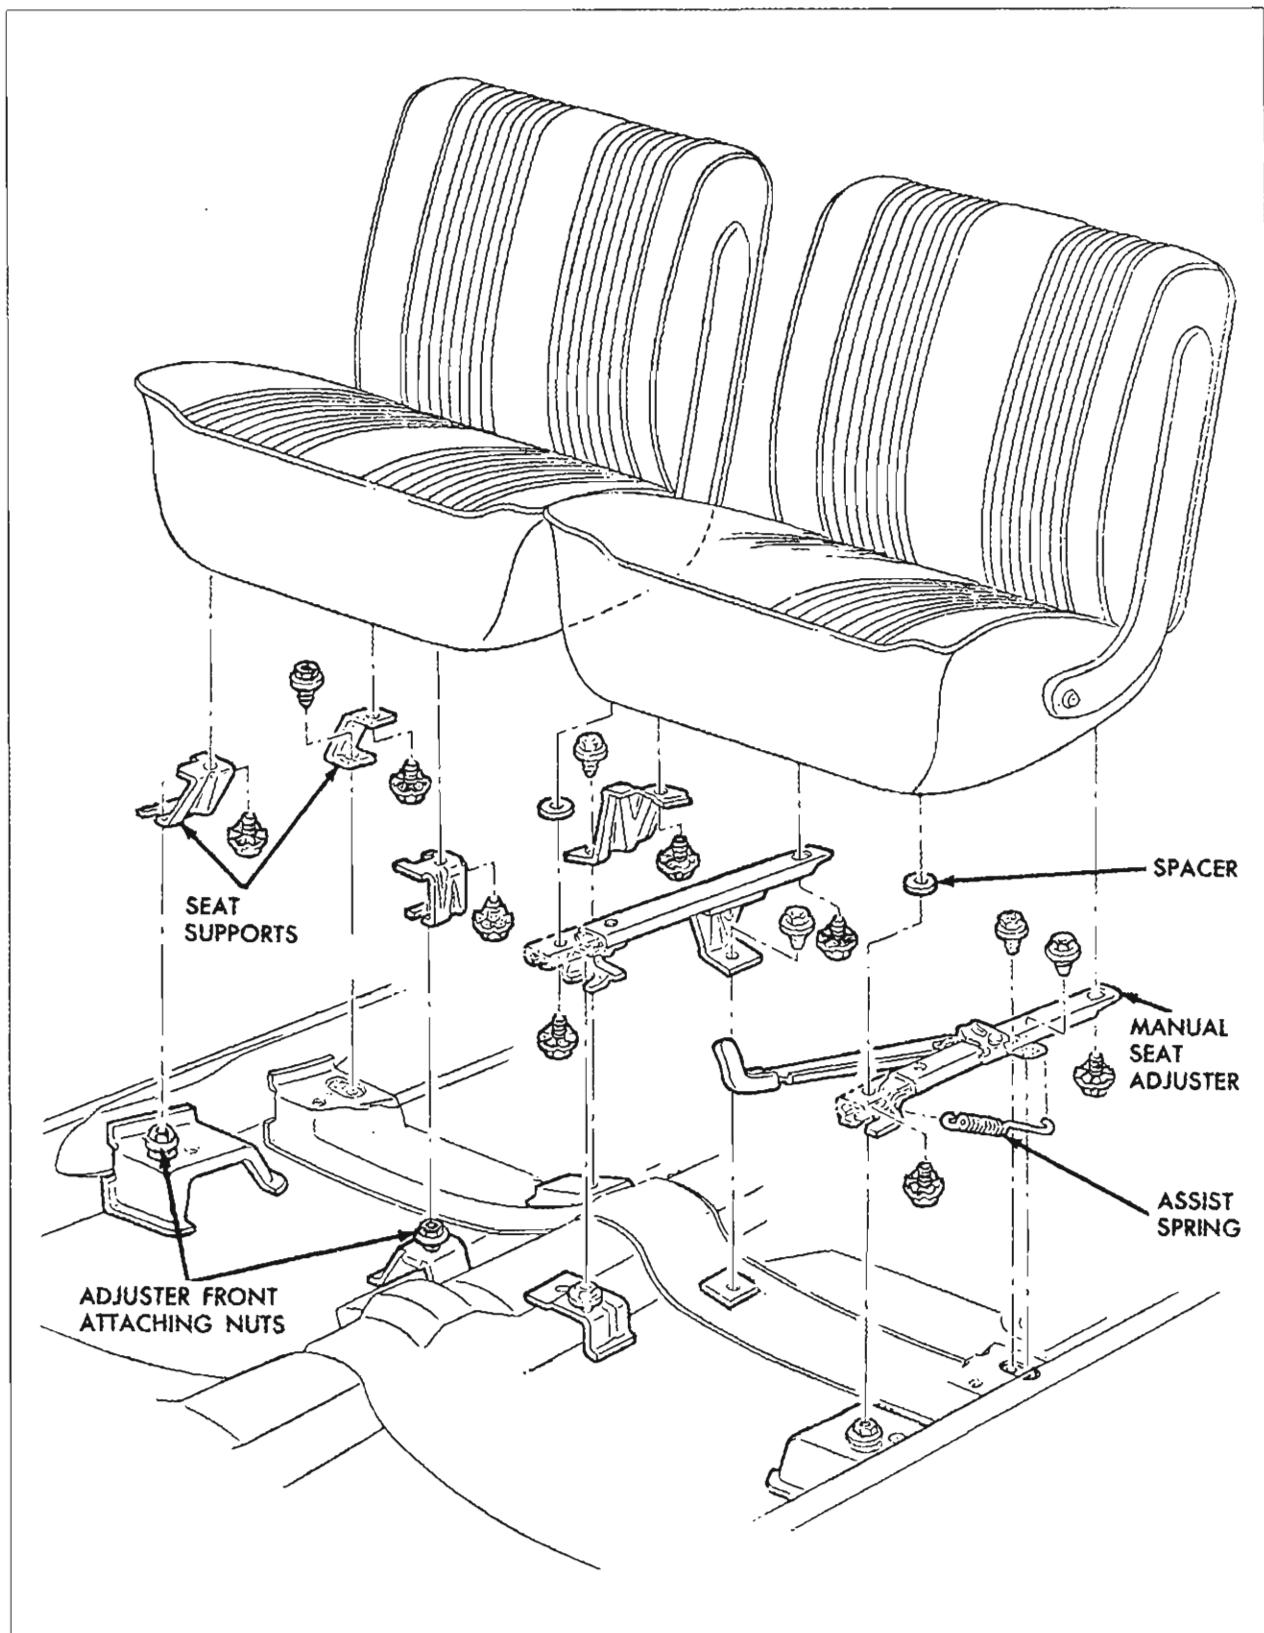

Fig. 22-1 Bucket Seat Assemblies—Typical 2117 and 2267 Style
The driver's seat assembly in Fig. 22-1 is typical of all "67" styles. The passenger's seat assembly in Fig. 22-1 is typical of all styles equipped with stationary seat supports.
All seat adjusters and stationary supports are bolted to the seat bottom frame; however, a combination of bolts and/or nuts are used to retain the adjusters or stationary supports to the floor pan assembly (Figs. 22-1 and 22-2).
3. Remove bolt securing affected support to seat bottom frame (Fig. 22-1) and remove support from seat assembly.